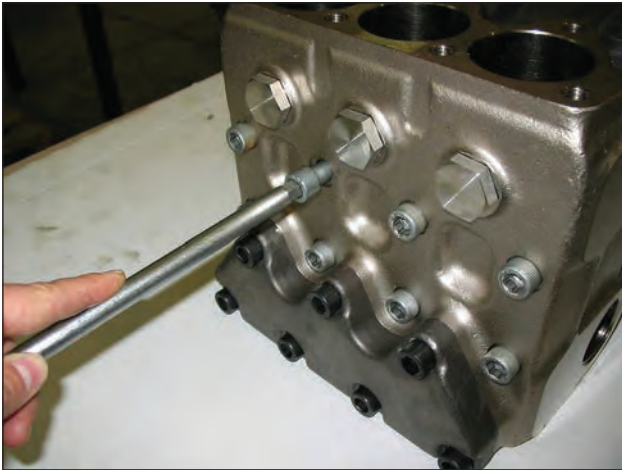

Fig. 20
A) Unscrew the M12x150 head fixing screws as indicated in Fig. 20.